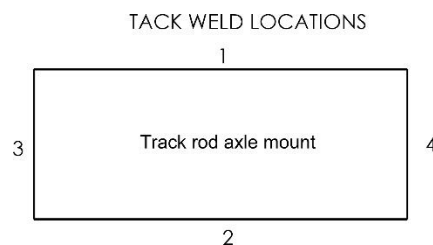

Figure 7. Tack Welding Axle Mount
7. Tack weld all 4 sides of the axle mount to the axle housing as shown in Figure 7